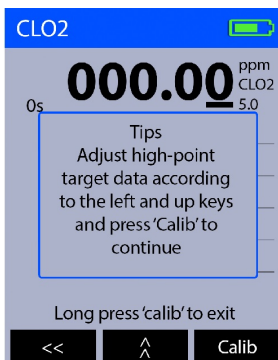

Figure 13.
3. Press **OK** () to launch the calibration screen (Figure 13).